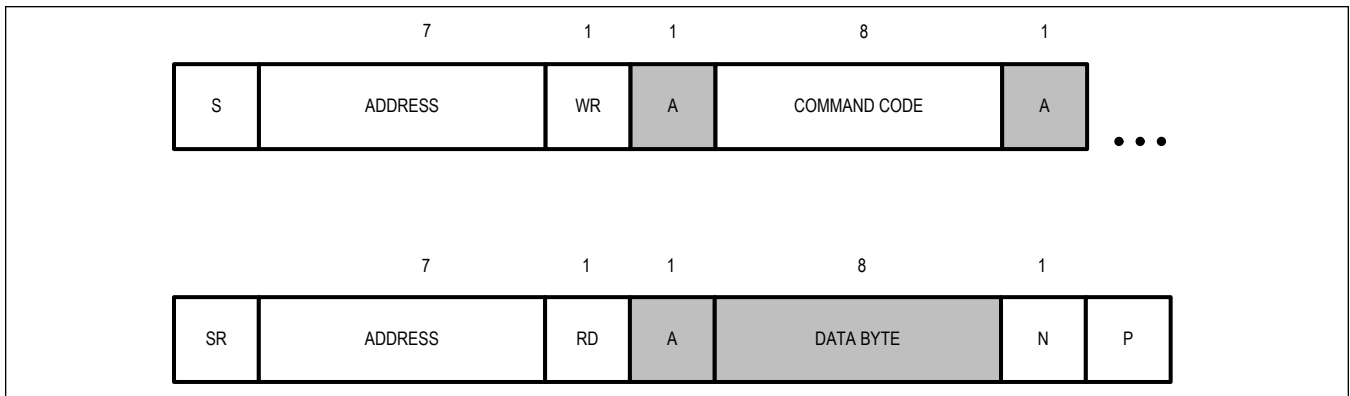

Figure 3. I²C Read
In an I²C read operation (Figure 3), the bus master issues a write command first by initiating a START (S) condition followed by seven address bits, a write bit (R/W = 0) and the 8-bit register address. The master then issues a repeated START (Sr) condition, followed by seven address bits, a read bit (R/W = 1). If the address byte is successfully received, the device (slave) issues an acknowledge (A). The master then reads from the slave. For continuous read, the master issues an acknowledge bit (AM) after each received byte. The master terminates the read operation by sending a not acknowledge (N) bit. The device then releases the data line.